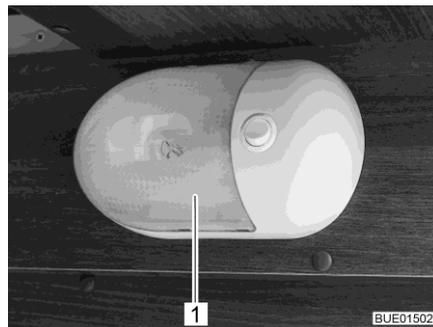

Fig. 318 Surface mounted light
- Carefully push the transparent cover (Fig. 318,1) together from both sides, pull it lightly from the switch and pull it off forwards.